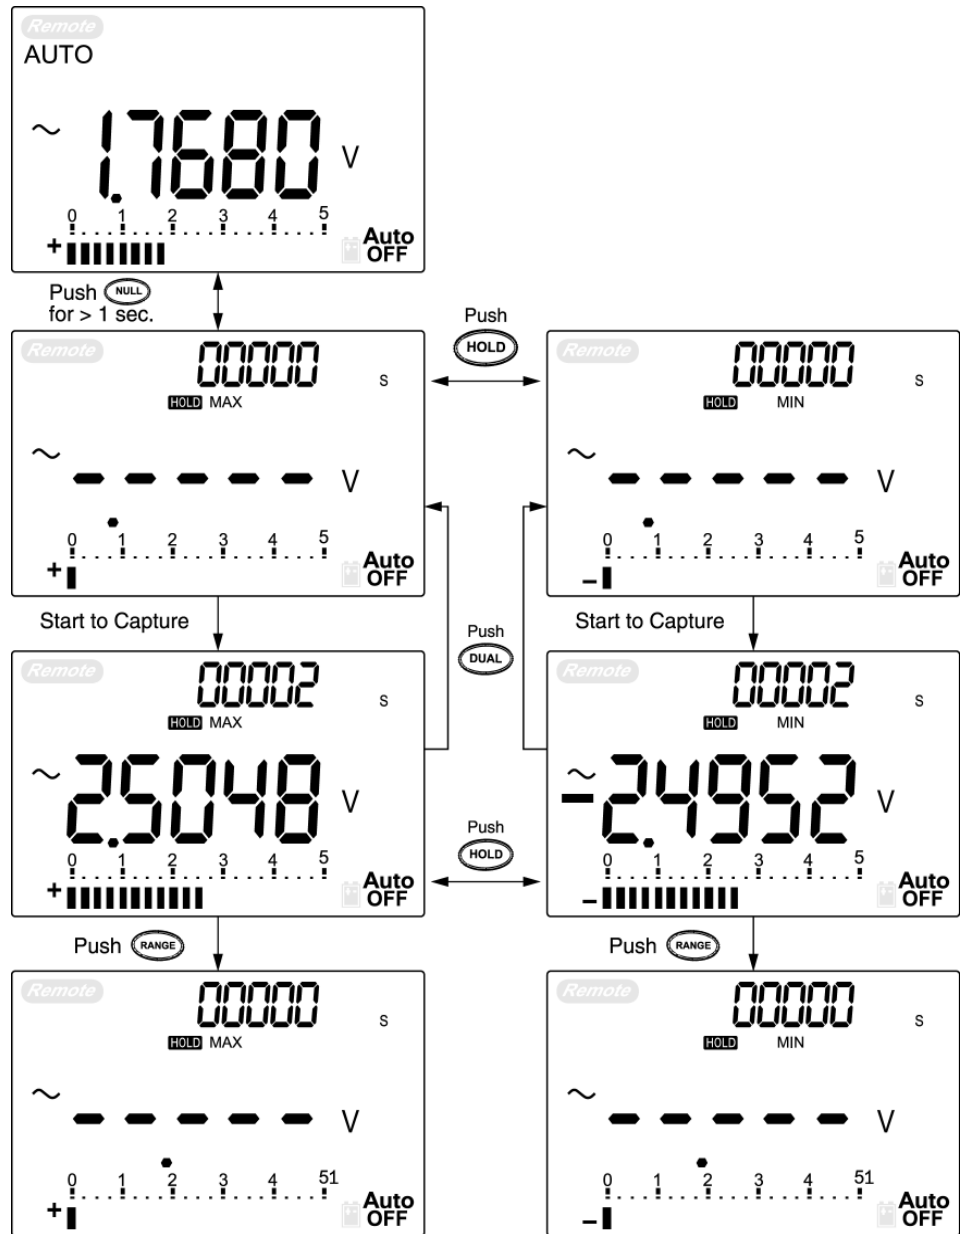

Figure 22 1 ms peak hold mode operation
- 4 According measurements in **Figure 22**, the crest Factor will be  $2.5048 / 1.768 = 1.416$ .